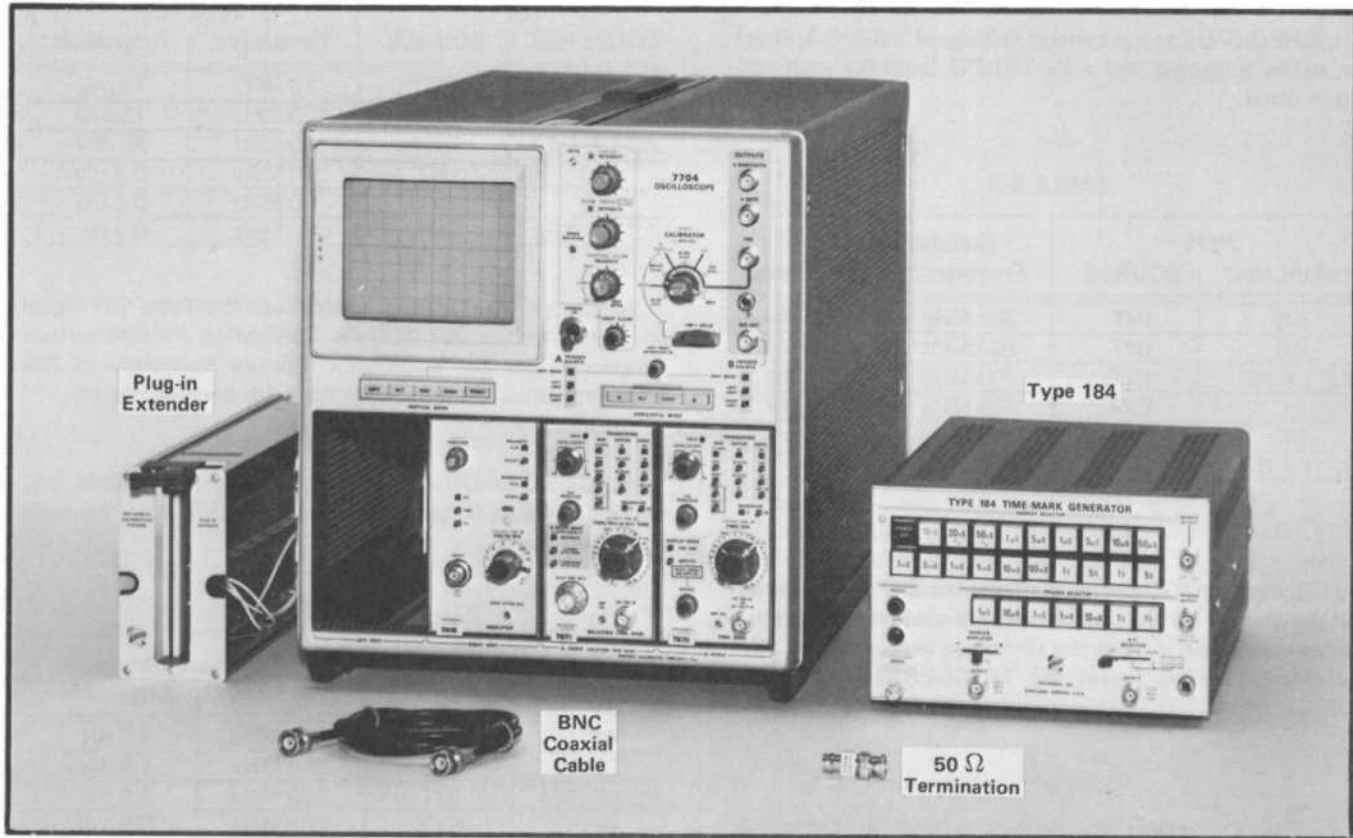

Fig. 5-6. Test equipment required for steps 13 through 25.
13. Check/Adjust Sweep Calibration (SWP CAL, a front-panel adjustment) ❶
- a. Test equipment required is shown in Fig. 5-6.